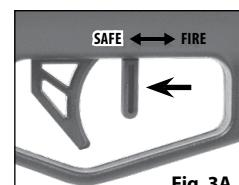

Fig. 3A
2. The safety is in the **SAFE** position, and the airgun is "ON SAFE" when the Safety lever is in the rear position "Safe" (near trigger), and it cannot move backward any further. (Fig. 3A).